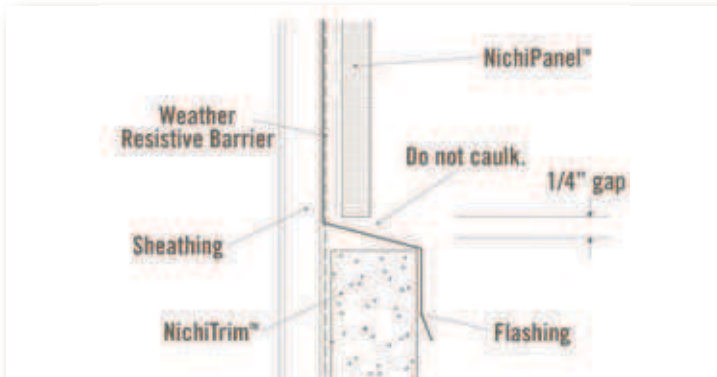

Fig. 8.4
- If a horizontal band board or trim attachment is used at horizontal joints, flashing must be in place that extends over the panel and trim attachment. (Fig. 8.4)